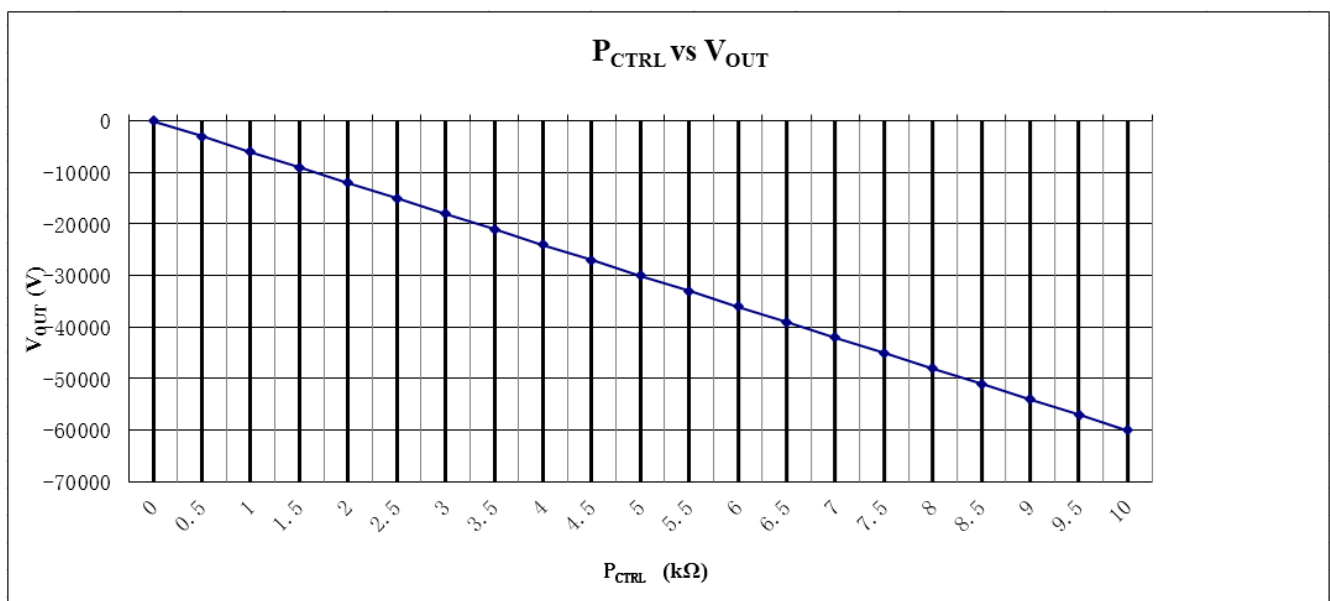

Figure 4.  $P_{CTRL}$  VS.  $V_{OUT}$
5. HV adjustment: 10-turn potentiometer for adjusting output voltage. Rotate it clockwise to increase the output voltage, and the potentiometer resistance = the corresponding scale  $\times 10\Omega$ . For example, as Figure 4 shows, when the scale is 10, and the frame above the scale shows 1 (1k $\Omega$ ), then the resistance =  $10 \times 10\Omega + 1k\Omega = 1.1k\Omega$ , and the like.